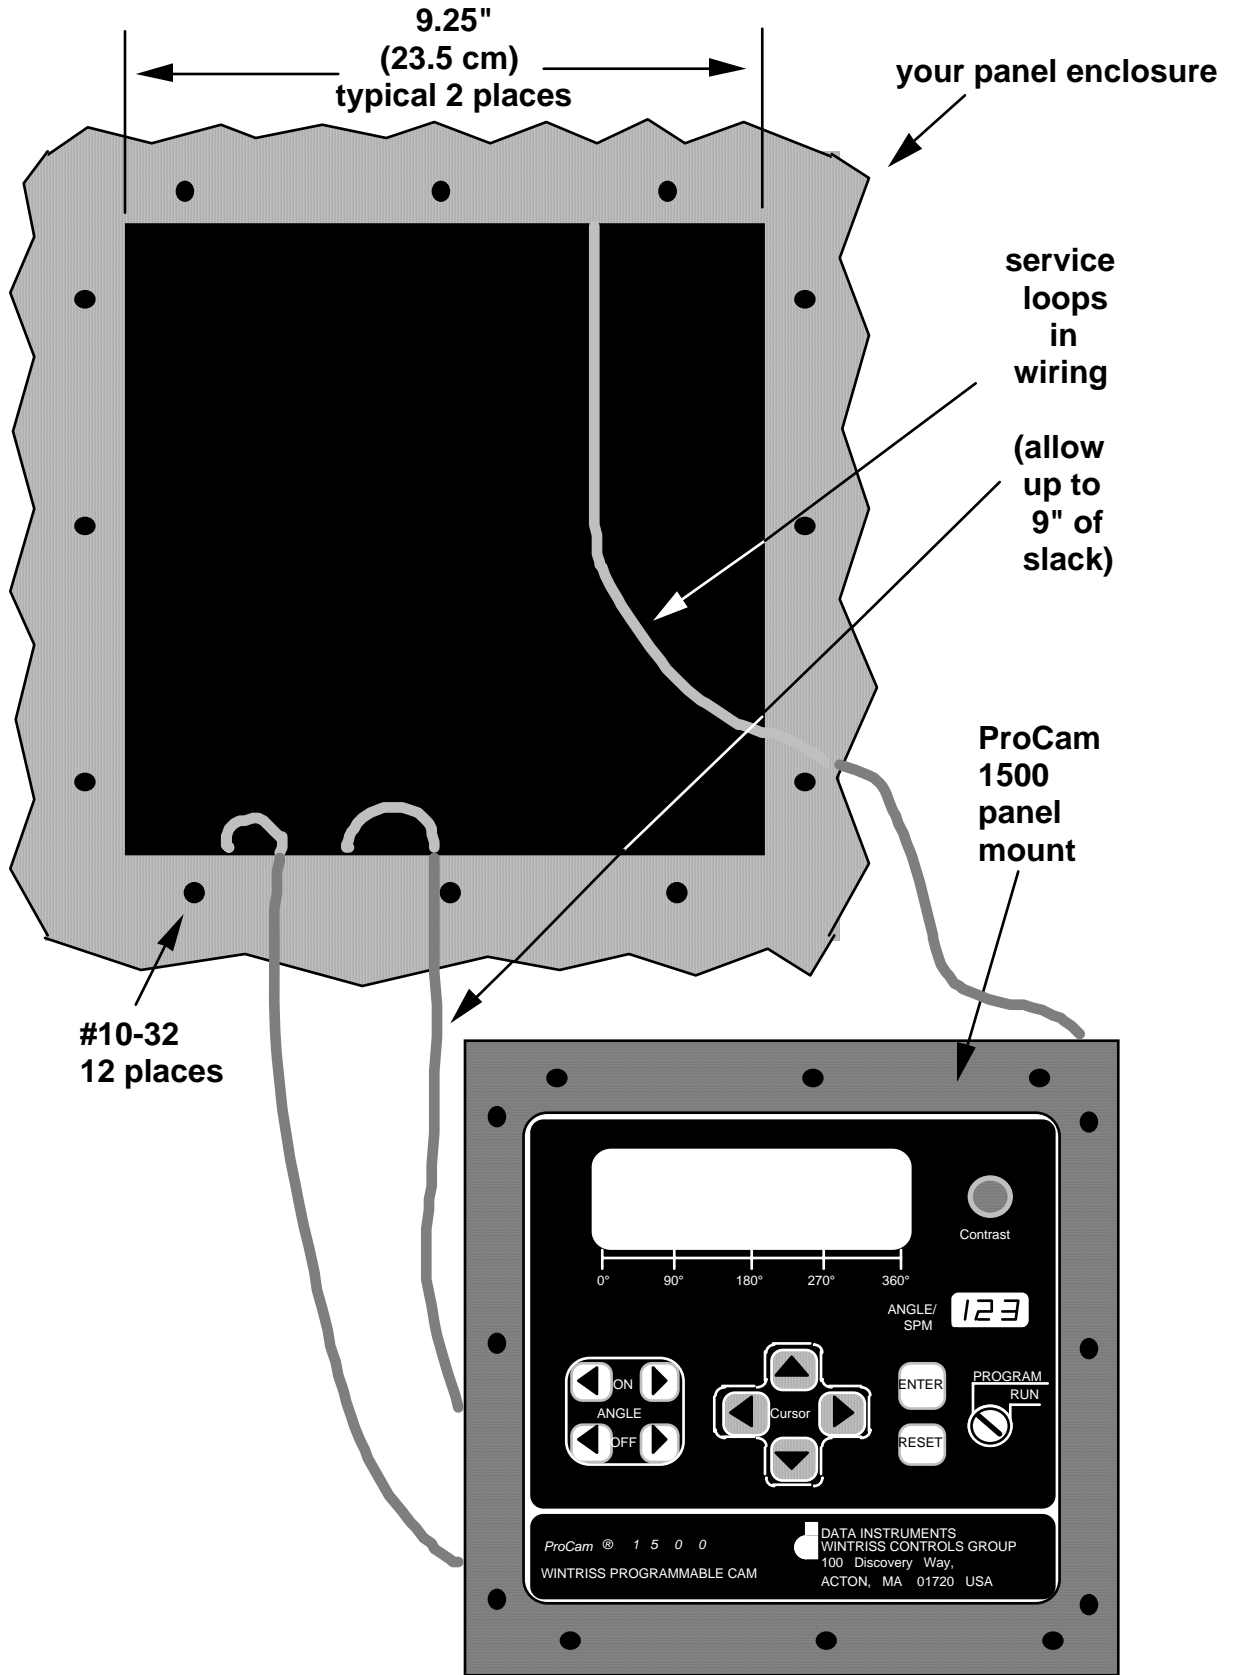

Figure 2-3A. ProCam 1500 "cutout dimensions" for your panel enclosure
3. Prop ProCam near the location where it will ultimately be mounted (see Figure 2-3A). You can do this by connecting ty wraps from two of the left holes on the panel to the corresponding holes on the enclosure for a hinge-like effect. Allow up to 9" of service loop when performing the wiring connections. Also make sure all cables will reach.